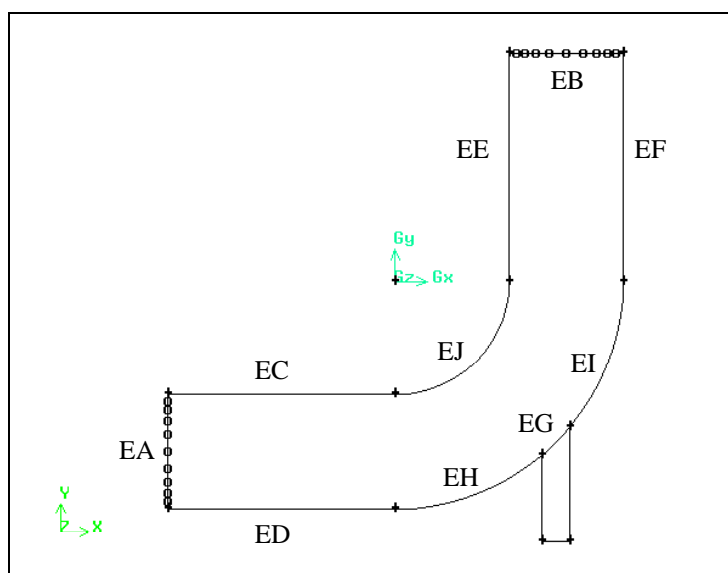

Figure 2-16: Edge meshing on inlet and outlet of large pipe
Figure 2-16 shows the mesh on the inlet and outlet edges of the large pipe.
- Select the edges marked EC, ED, EE, and EF in Figure 2-16.